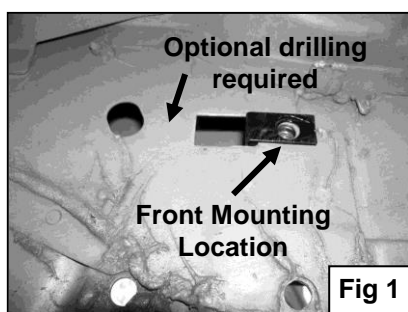

Fig 1
3. With nut towards the inside of the side panel, insert (2) 8mm Clip Nuts through each rectangular hole and orient them so nut aligns with factory round hole (**Figure 1 & 2**). **NOTE:** One of the holes in the front mounting location does not line up with Mounting Bracket. You can either use the Mounting Bracket as a template to mark and drill the fourth hole in the side panel or you can mount Sidebar with three bolts.